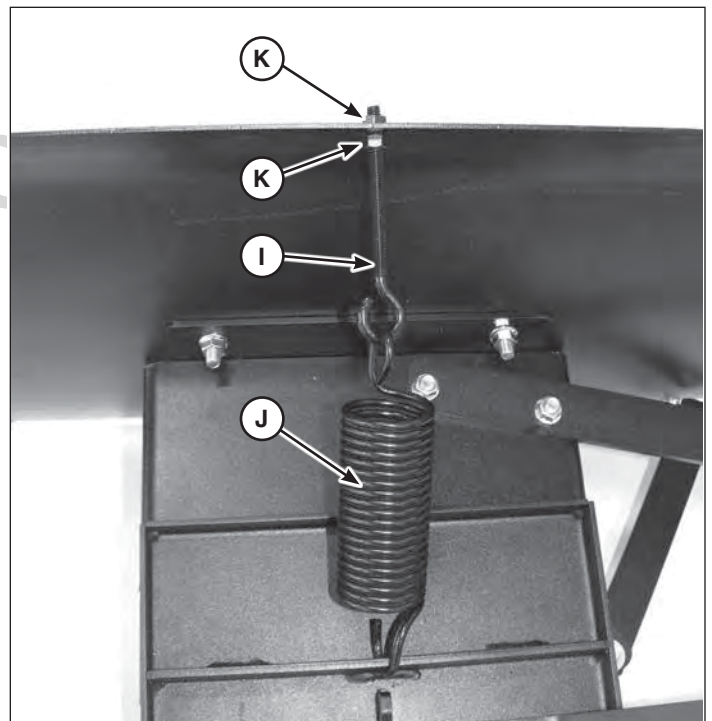

Figure 12
- Install a nut (**K**, Figure 12) approximately .75" onto the eye bolt (**I**).